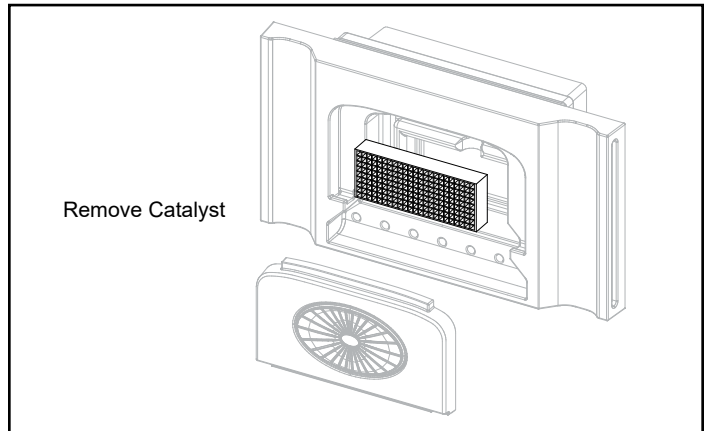

Figure 5.8 - Remove catalyst.
3. Install the catalyst by gently placing it into the cavity and straight down, Figure 5.8. Place the catalyst where the catalyst's ceramic components will not be damaged.